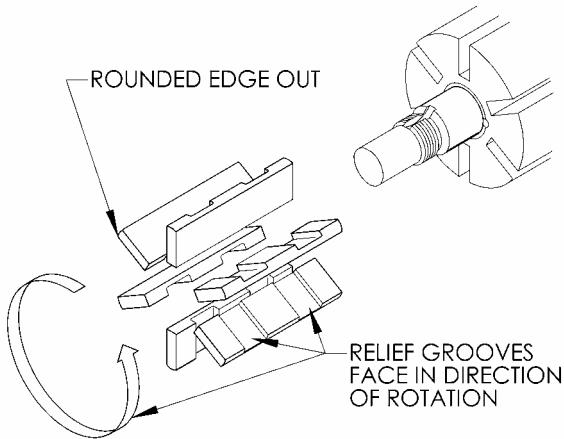

Figure 8 – Vane Installation
3. Turn the shaft by hand until a vane (14) comes to the top (12 o'clock) position of the rotor. Remove the vane.
4. Install a new vane (14), ensuring that the rounded edge is UP, and the relief grooves are facing towards the direction of rotation. See Figure 8.
1. Apply a small amount of grease to the liner key (74) to hold the key in place during liner installation. Install the liner key (74) in the groove on top of the liner (41).
2. Align the liner key (74) with the pump casing keyway and start the liner (41) into the casing (12). The word 'INTAKE' cast on the liner must face the intake port of the pump casing. Uniformly tap the outer edge of the liner with a rubber mallet to fully insert into the casing. NOTE: If the liner is installed backwards, it will restrict the port openings and cause cavitation, noise and loss of capacity.
3. 2 and 3-inch models: Place the disc (71) against the liner with the seal cavity outward.
4. 4-inch models: Attach the disc (71) to the outboard head without the mechanical seal components. Install the disc machine screws (71A) and lockwashers (71B).
6. Remove the vanes (14) and push rods (77) from the rotor and shaft assembly. Inspect for wear and damage, and replace as follows:
- a. Insert the vanes into the bottom three rotor slots with the relief grooves facing in the direction of pump rotation, and with the rounded edges outward. See Figure 8.